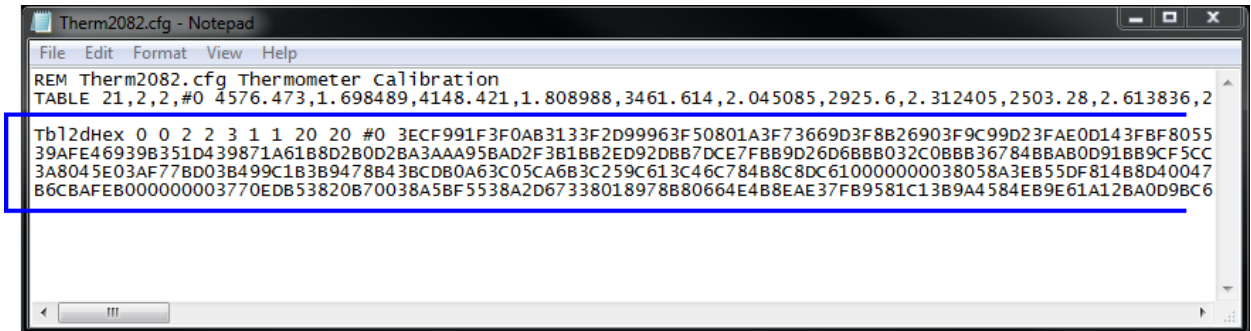

Figure 5. TTO thermometer calibration file with MR table.
5. The file should contain an MR table as shown inside the blue lines in Figure 5. Depending on the details of the file before you added the MR table, it may look slightly different than the figure.